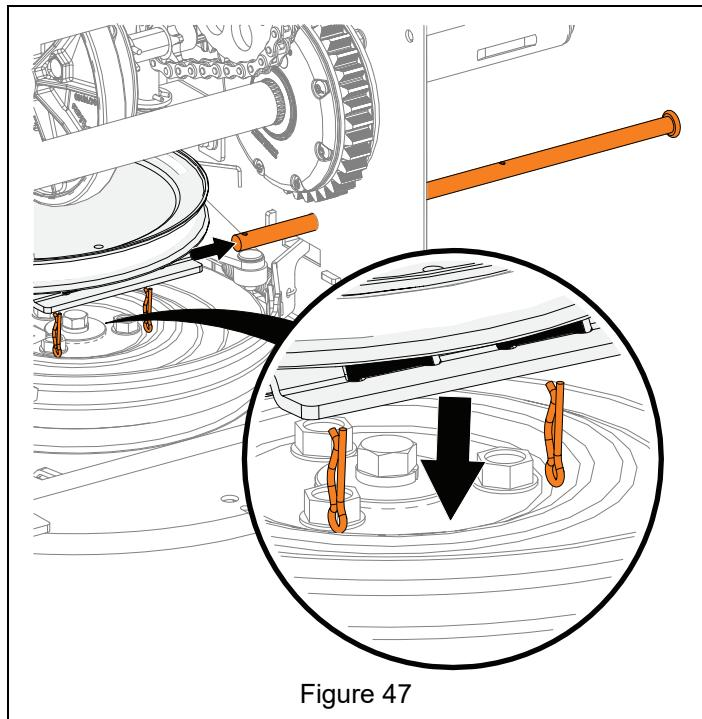

Figure 47
12. Remove two hair pins retaining swing gate assembly to swing gate pivot pin and remove pin. See Figure 47.